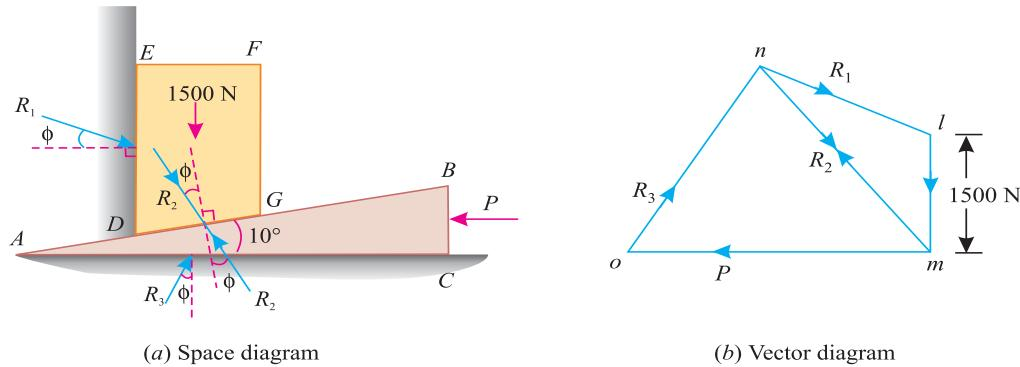

Fig. 9.13.
- First of all, draw the space diagram for the block  $DEFG$  and the wedge  $ABC$  as shown in Fig. 9.13 (a). Now draw reactions  $R_1$ ,  $R_2$  and  $R_3$  at angles of  $\phi$  (i.e.  $16.7^\circ$ ) with normal to the faces  $DE$ ,  $AB$  and  $AC$  respectively.
- Now through  $m$ , draw a horizontal line (representing the horizontal force  $P$ ). Similarly, through  $n$  draw a line parallel to the reaction  $R_3$  meeting the first line at  $O$  as shown in Fig. 9.13(b).